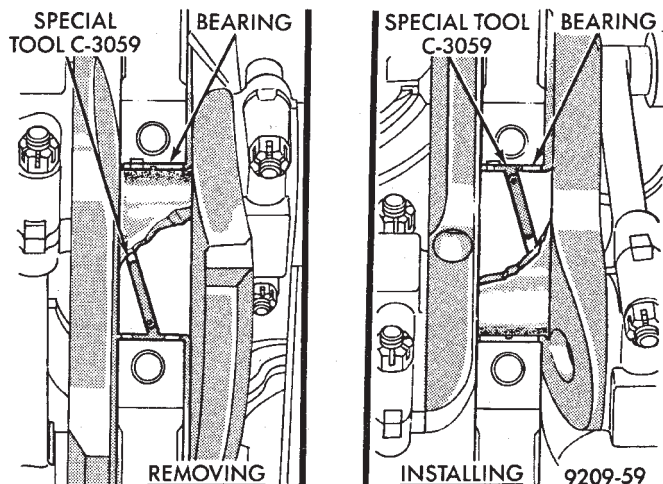

Fig. 43 Upper Main Bearing Removal and Installation with Tool C-3059
(4) Remove upper half of bearing by inserting Crankshaft Main Bearing Remover/Installer Tool C-3059 into the oil hole of crankshaft (Fig. 43).
(5) Slowly rotate crankshaft clockwise, forcing out upper half of bearing shell.
(1) Start bearing in place, and insert Crankshaft Main Bearing Remover/Installer Tool C-3059 into oil hole of crankshaft (Fig. 43).
(2) Slowly rotate crankshaft counterclockwise sliding the bearing into position. Remove Tool C-3059.
(3) Install the bearing caps. Clean and oil the bolts. Tighten the capbolts to 115 N·m (85 ft. lbs.) torque.
(4) Install the oil pump.
(5) Install the oil pan.